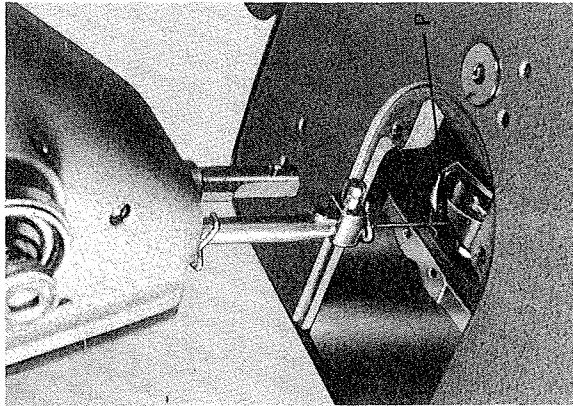

Fig. 16
- 4) When the needle bar is in this position, point (P) of the rotating hook (Fig. 16) should be at the center of the needle.